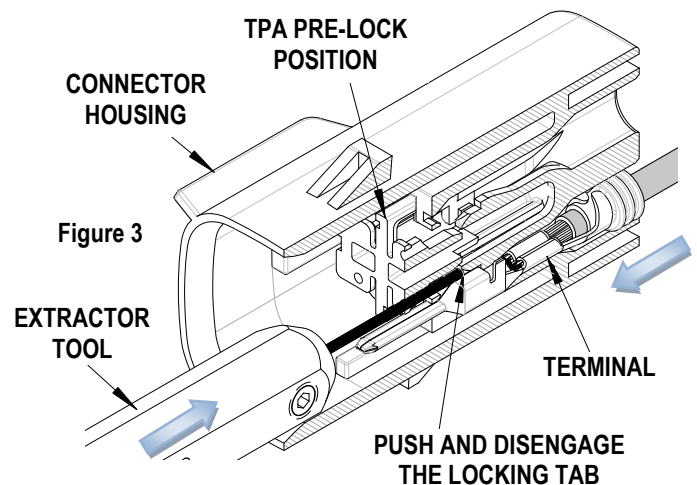

Figure 3
1. Push the terminal forward in the arrow direction before using the Extractor Tool. See Figure 3.